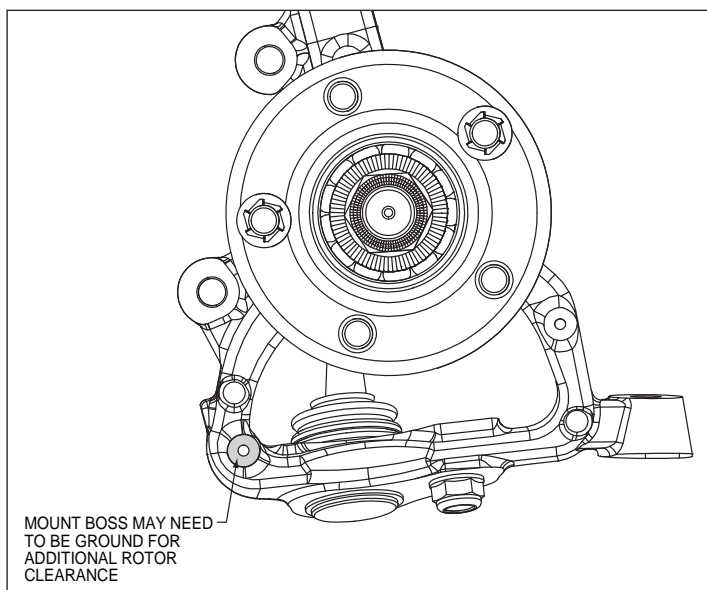

Figure 4. Mounting Boss Modification
- Slide the rotor registration adapter (6) onto the axle register on the axle hub with the smaller O.D. facing outward, Photo 3. Slide the hat/rotor assembly onto the axle hub. **NOTE: The hat must fit flush against the axle hub flange or excessive rotor run out may result.** Install three lug nuts (finger tight) to keep the hat/rotor assembly in place while continuing with the installation. **NOTE: Check clearance between rotor and upright at backing plate mounting boss, Figure 4.** Verify there is a minimum of .050". If not, remove material from mount boss on upright.